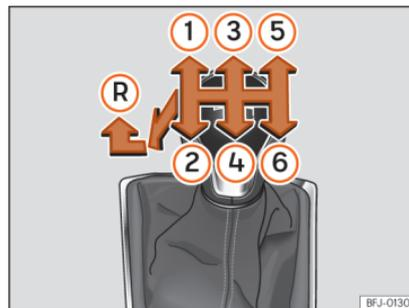

Fig. 164 Gear shift pattern of a 6-speed manual gearbox
The position of the gears is indicated on the gearbox lever » **Fig. 164**.
»» Fig. 164 (R).